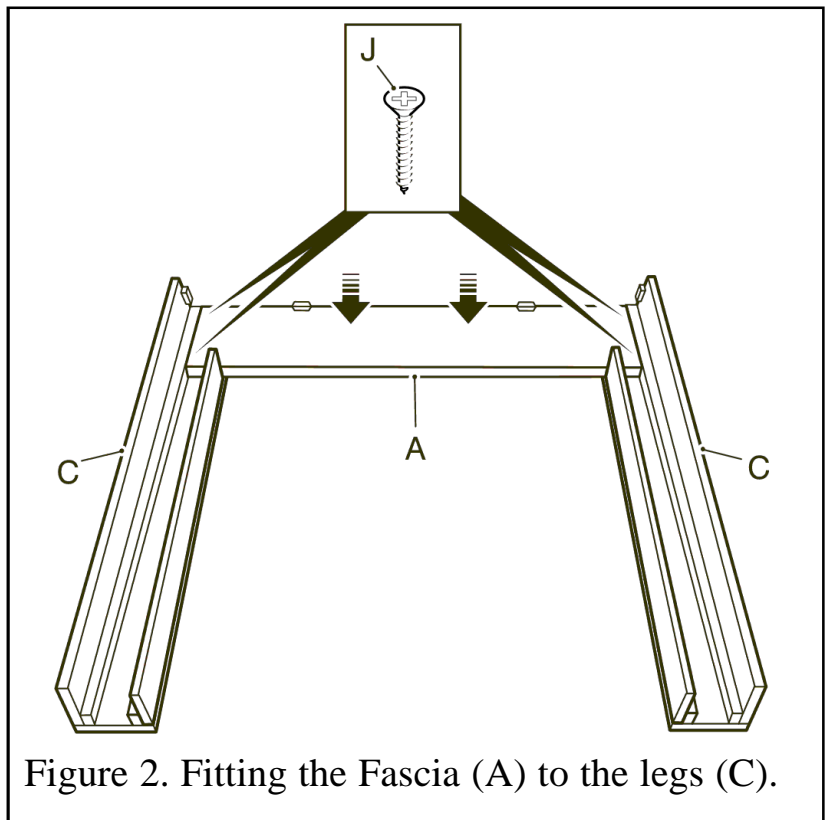

Figure 2. Fitting the Fascia (A) to the legs (C).
- Lay the legs (C) onto a smooth, flat, clean surface with the inside facing upward as shown in figure 2. Place fascia (A) as in figure 2 ensuring that the top of the fascia is level with the top of the legs. The sides of the fascia should touch the side supports on the inside of the legs. The plastic blocks should be at the top of the surround.
- Secure using four (J) screws.